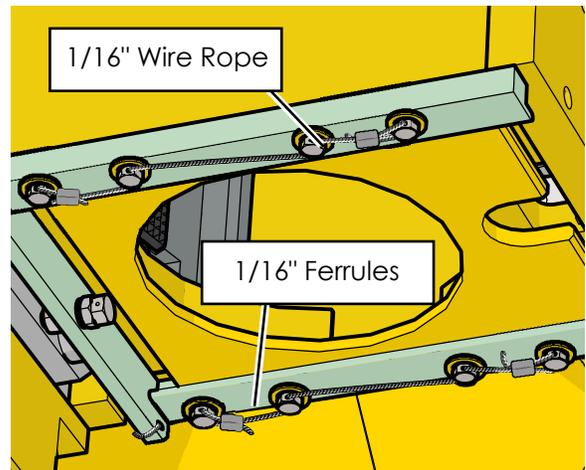
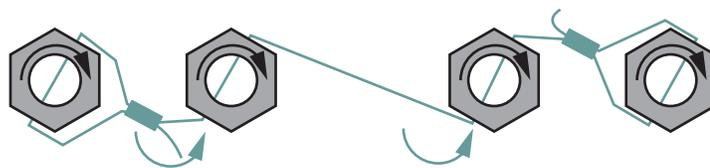

Figure 12: BUW with Kit and Safety Wire
Figure 13: Backward rotation is prevented by the tension from properly routed secondary retention.
- Safety wire these fasteners using 1/16" wire rope (P/N M21-2000-010) and 1/16" ferrules (P/N M19-3006-010). See Figure 12 and Figure 13.